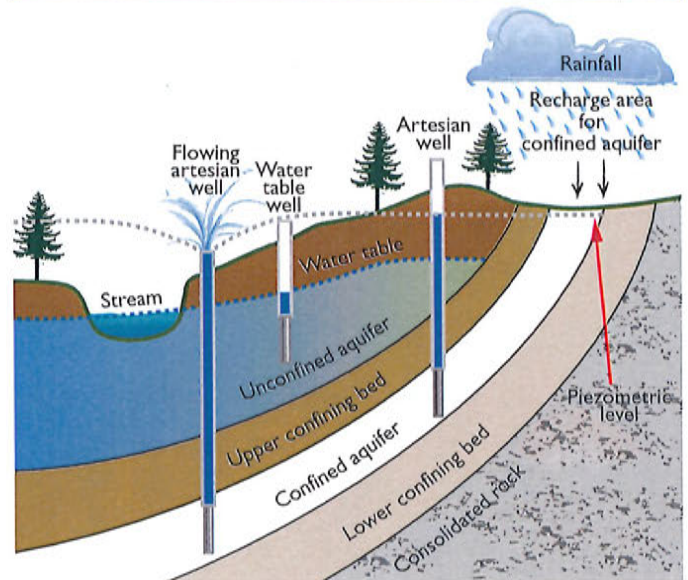
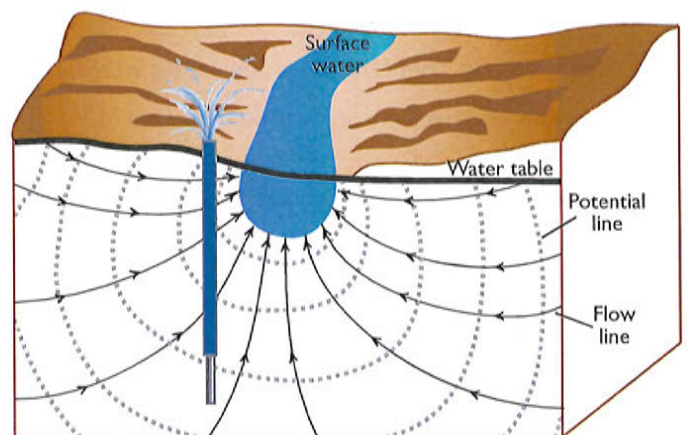

Figure 1. Geological and topographical controls affecting artesian and flowing artesian wells.
Figure 2. Topographically controlled flowing artesian well.
2. Figure 1: Proposed test hole location plan
An **artesian well** is a well that taps into a confined aquifer (see Figure 1). Under artesian pressure, water in the well rises above the top of the aquifer, but does not necessarily reach the land surface. A **flowing artesian well** is one that has been drilled into an aquifer where the pressure within the aquifer forces the groundwater to rise above the land surface naturally without using a pump. Flowing artesian wells can flow on an intermittent or continuous basis and originate from aquifers occurring in either unconsolidated materials such as sand and gravels or bedrock, at depths ranging from a few meters to several thousand meters. All flowing wells are artesian, but not all artesian wells are flowing wells.
Artesian conditions can be generated by geological and topographical controls (see Figure 1) or by topographical controls alone (Figure 2). In the former, water in an artesian well rises upward due to the pressure confined in the aquifer. Artesian wells are found in inclined confined aquifers sandwiched between layers of rock or overburden that are impervious or have low permeability. Water enters the exposed portion of the aquifer at a high elevation and percolates down through interconnected pore spaces. The water held in these spaces is under pressure (confining pressure or hydrostatic head) due to the high elevation from which it originally came. If a well is drilled from the land surface through the overlying impervious layer, the pressure inside the aquifer will cause the water to rise in the well. In areas where the pressure of the aquifer is great enough, the water rises above ground level resulting in a flowing artesian well.
Topographical control situations can be found in unconfined aquifers where the well intake is deep enough to intercept a zone where the hydraulic head is higher than the land surface (see Figure 2). This situation typically occurs in groundwater discharge areas at lower elevations near rivers and lakes in valleys surrounded by steep slopes. The pressure of the groundwater typically increases with depth in the discharge areas where the slope of the water's